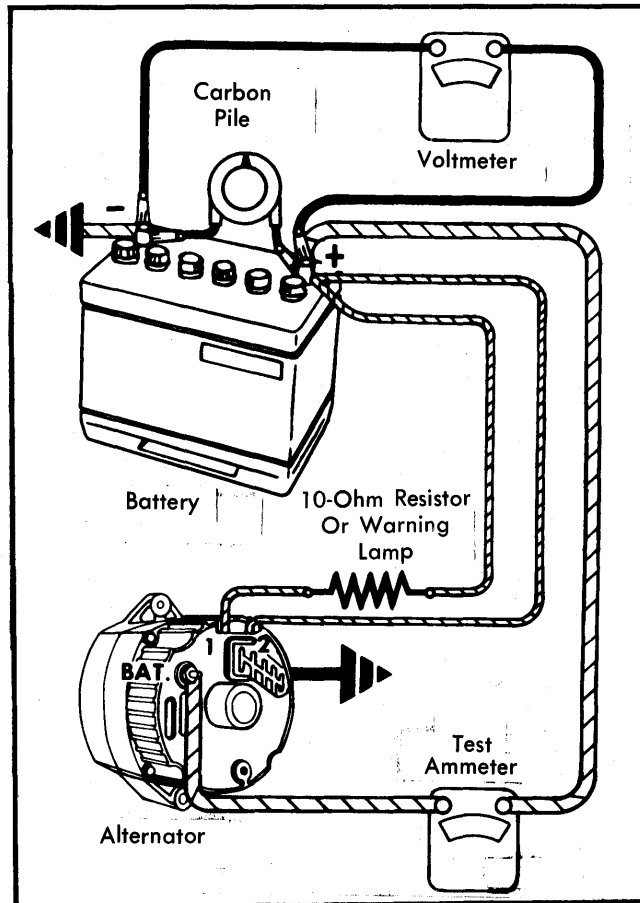

Fig. 5 Alternator Connections for Bench Testing and On-Car Check of Undercharged Battery
3) Disconnect battery ground cable. Connect an ammeter in series at "BAT" terminal of alternator. See Fig. 5. Reconnect battery ground cable. Turn on all available accessories. Connect a carbon pile across battery. Operate engine at moderate speed (2000 RPM) and adjust carbon pile as necessary to obtain maximum current output.